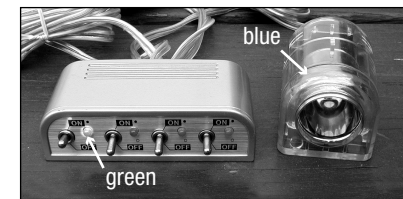

fig.14
**E! Power System:** To use, you will need a power source. Our E! Power Pak™ is sold separately. Once connected to power, the control will display "green" at any switch that is "ON" and the "ON" socket will glow blue. See fig 14